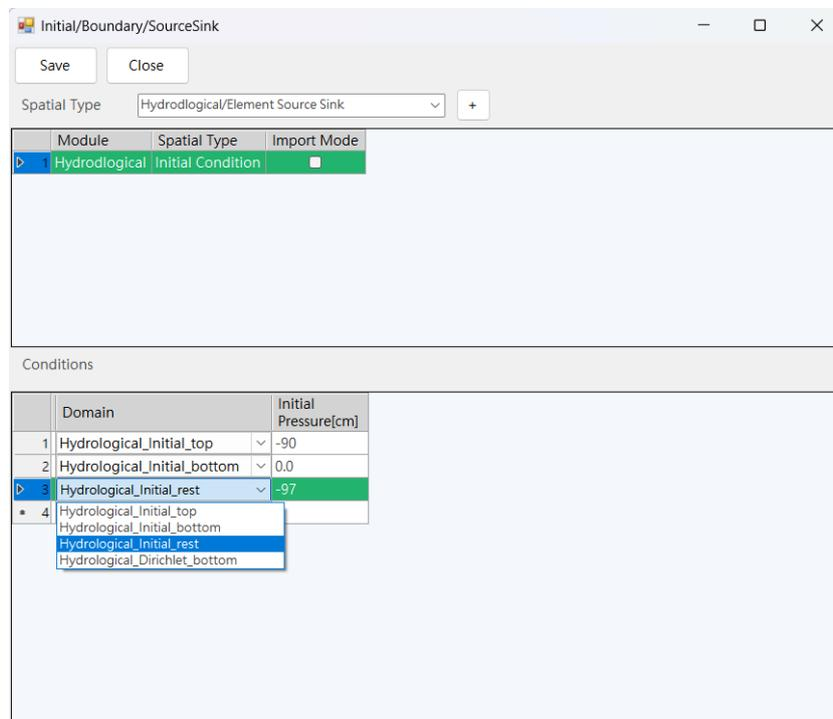

Figure 1.39. Initial/Boundary/SourceSink window.
12. In Benchmark Problem 1, the initial conditions are set as follows: a pressure head of -90 cm is imposed on the top surface of the column, 0 cm on the bottom surface of the column, and -97 cm elsewhere. Therefore, input the initial conditions separately for the top, bottom, and the remaining areas. As shown in Figure 1.39, select 'Hydrological/Initial Condition' in the list box for the 'Spatial Type' and then click the button . After that, in 'Conditions', select 'Hydrological_Initial_top', 'Hydrological_Initial_bottom', and 'Hydrological_Initial_rest' in sequence. Then, enter the corresponding initial values into 'Initial Pressure' as shown in Figure 1.39.